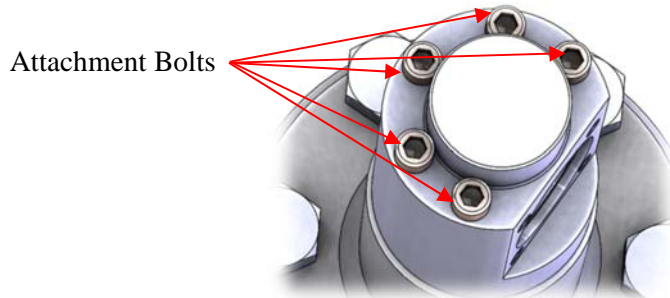

Figure 40: Lift Lever Cap Mounting Bolts
4. Unscrew and remove the bolts attaching the lift lever cap to the bonnet. See Figure 40.